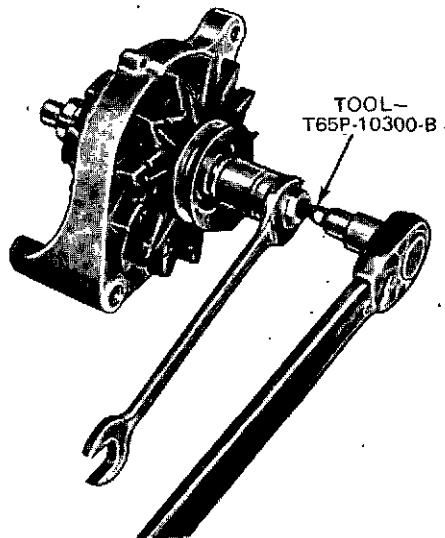

Fig. 19 – Pulley Removal
9. Remove the drive pulley nut with the tool shown in Fig. 19. Then, pull the lockwasher, pulley, fan, fan spacer, rotor and rotor stop from the rotor shaft.
4. Position the front housing, fan spacer, fan, pulley and lock washer on the drive shaft and install the retaining nut. Tighten the retaining nut with tool shown in Fig. 19 to the specified torque (see Specification Chart - page 36).
5. Remove the drive pulley nut, lockwasher, flat washer, pulley, fan, fan spacer and rotor from the front housing (Fig. 19).
6. Position the front housing over the rotor and install the fan spacer, fan, pulley, flat and lock washers and nut on the rotor shaft (Fig. 19).